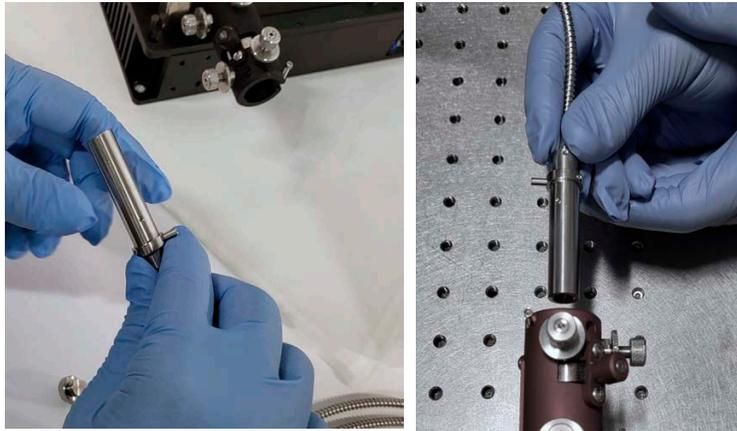

Figure 4-41. Insert Fiber Into Launcher
9. Insert the fiber connector toward and into the fiber launcher. Refer to Figure 4-41. Make sure that the alignment key on the fiber head is